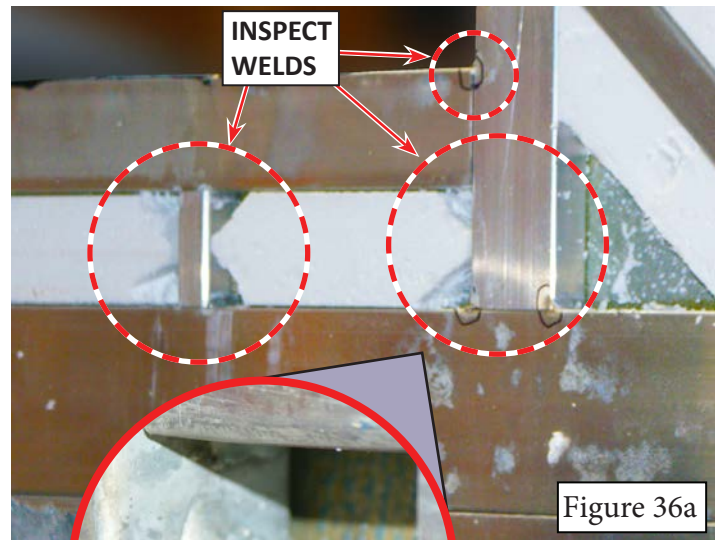

Figure 36a
- Cut the Styrofoam out of each corner and joint where the original structure was built. Inspect for broken welds (Figure 36a and 36b). Inspect ALL original welds on the exposed sidewall and mark for repair as needed.